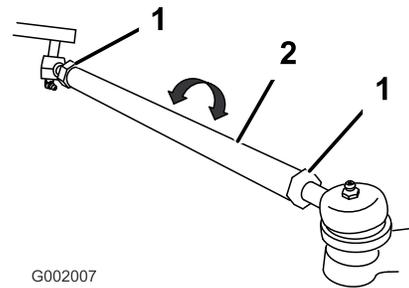

Figure 51
- If the measurement does not fall within the specified range, loosen the jam nuts at both ends of the tie rods (Figure 51).